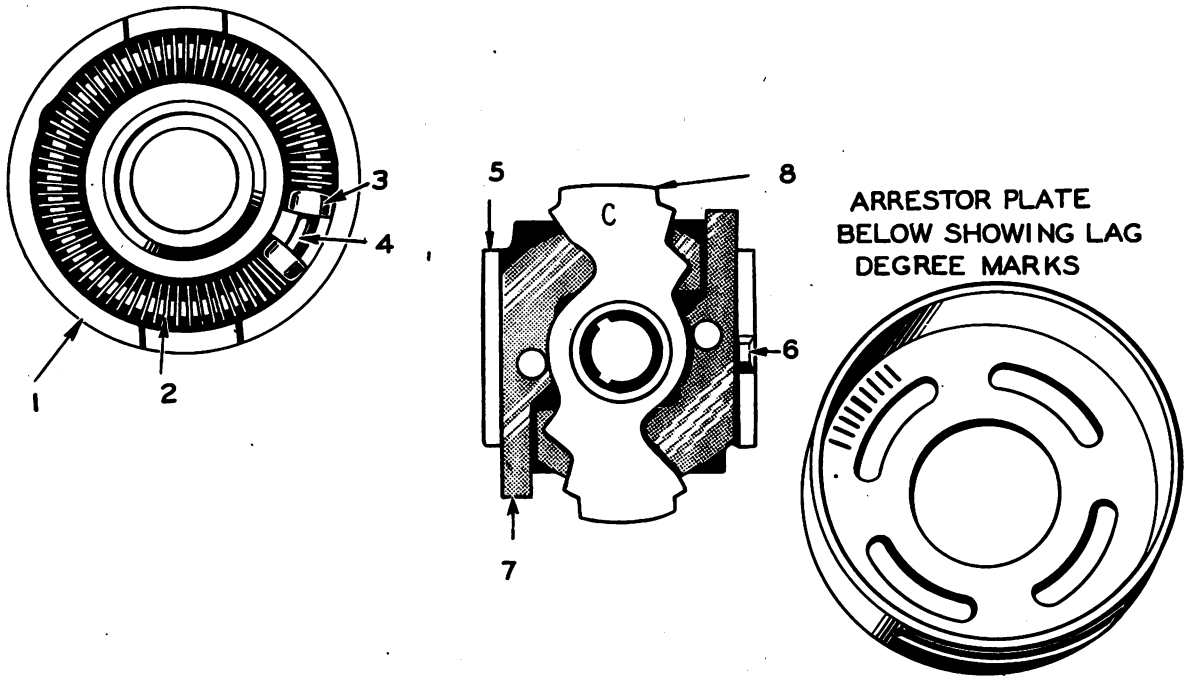

Fig. 35. Component Parts of Impulse Coupling
(3) Reassembling the coupling (see Figure 35).